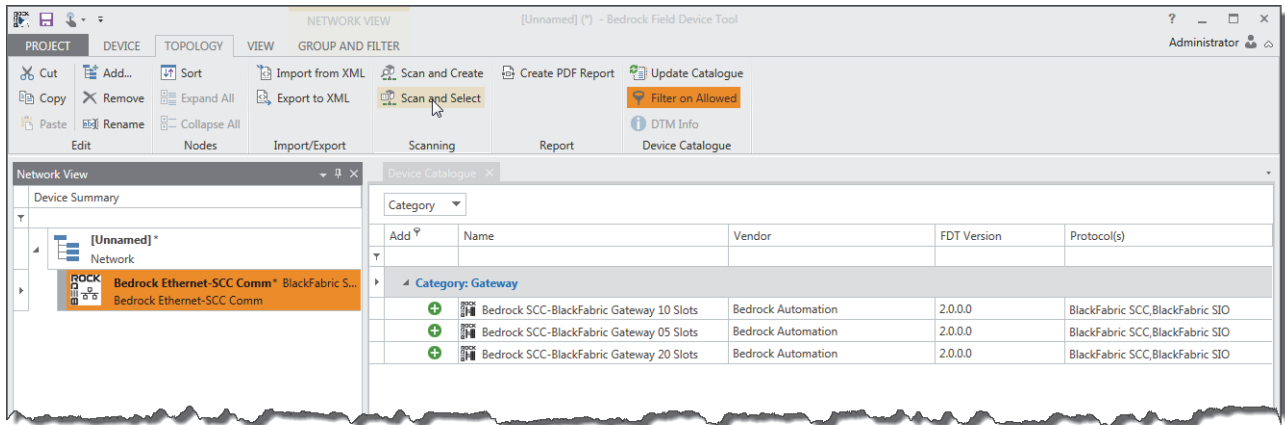

Figure 11-6 Adding a Gateway DTM
- To automatically add a gateway DTM for SCC-BlackFabric, click Scan and Select on the Topology tab in the Ribbon as shown in Figure 11-6. The Bedrock FDT will query the network for available modules. Go to step 8.
- **Or** to manually add a DTM to your network topology without querying the network, click the plus sign next to the DTM name (see Figure 11-6) in the Device Catalogue. Go to step 9.